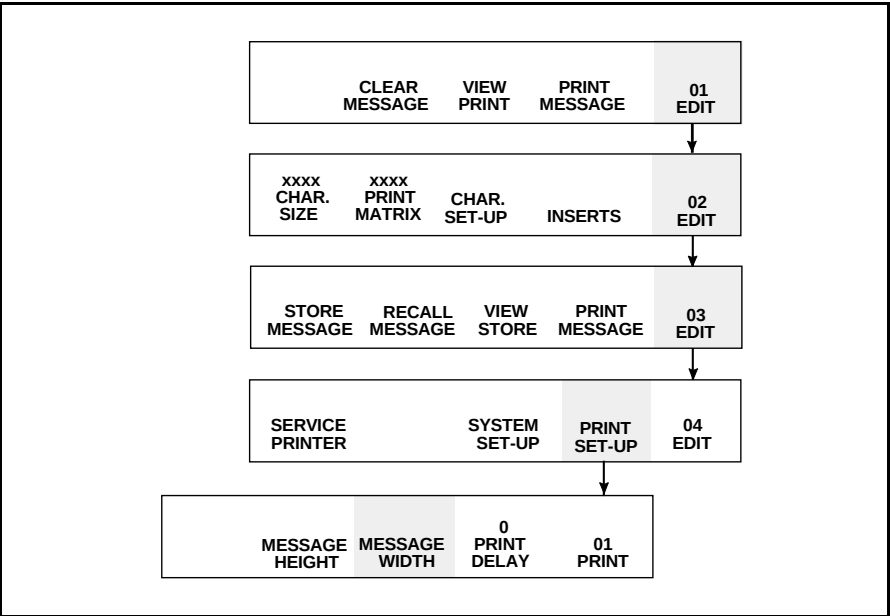

Figure 6-18. Assessing Frame <01 PRINT>
This procedure explains how to adjust the width of the message. The message width is adjusted in Frame <01 PRINT>. Refer to Figure 6-18.
1. Begin in Frame <01 PRINT>. Refer to Figure 6-18.